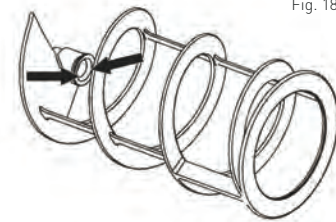

Fig. 18
- Lubricate the inside area of the auger seal hat cover (A) as shown in Fig. 18 with the lubricant (Supplied).